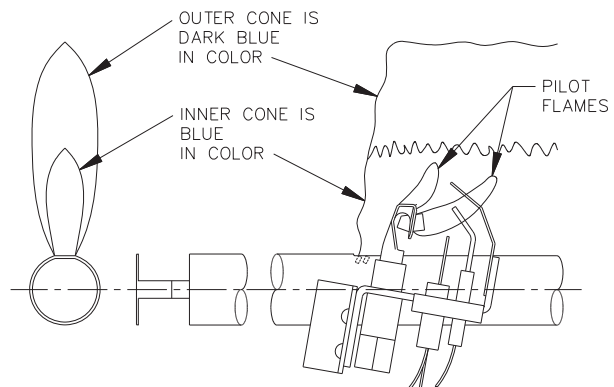

Figure 8.3: Intermittent Pilot and Main Burner Flame
3. Check the pilot and main burner flame. See Figure 8.3. The pilot should provide a steady flame enveloping 3/8" to 1/2" (1 cm to 1.2 cm) of the flame sensor. If required, adjust the pilot as stated in the gas valve manufacturer's instructions. The main burner flame inner cone should be approximately 1-1/2" (4 cm) high and should have a very sharp, blue color characteristic.